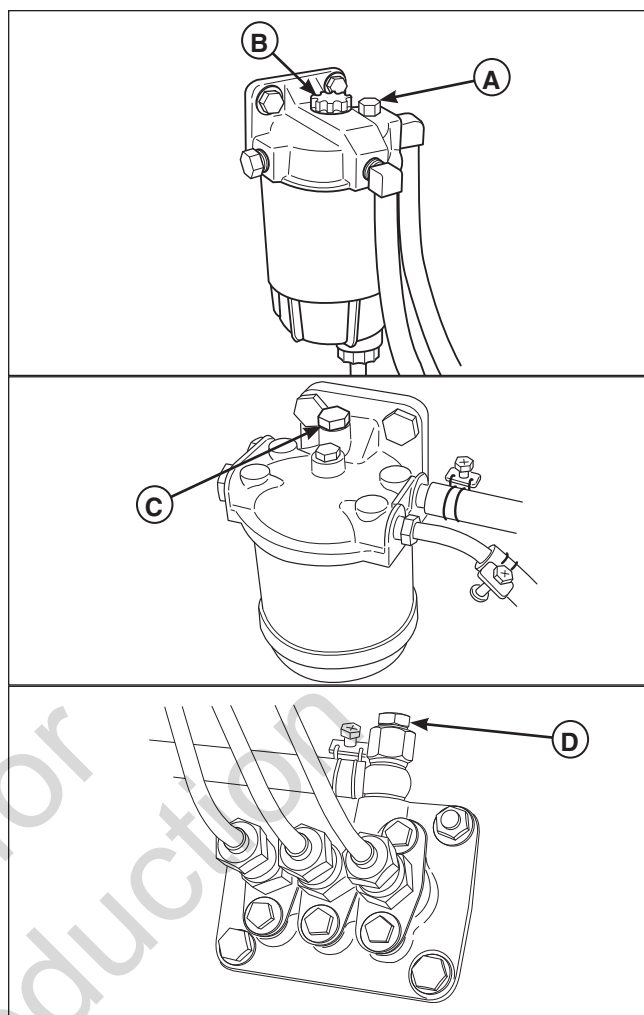

Figure 2. Fuel System Priming
1. Using a 1/2" wrench, loosen the vent screw (A, Figure 2) on the water separator 2-3 revolutions.
2. Unscrew the priming hand pump (B) located on top of the water separator. Operate the hand pump up and down until fuel that is free of air flows from the vent.